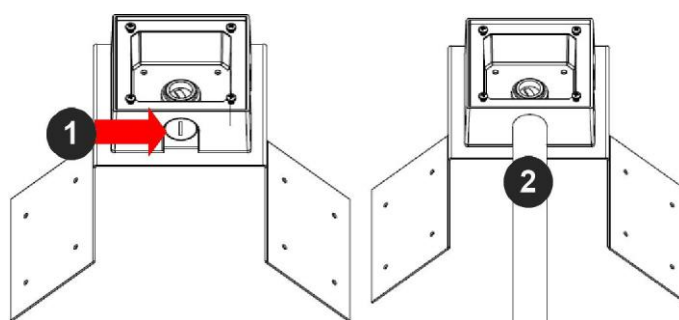

Figure 1: Attach conduit to SV-JBA junction box adapter
3. Attach the Junction Box Adapter to the Corner Mount Adapter as shown in Figure 1.
4. Remove the conduit plug on the junction box adapter and connect $\frac{3}{4}$ " NPT conduit to the junction box adapter as shown in Figure 1.